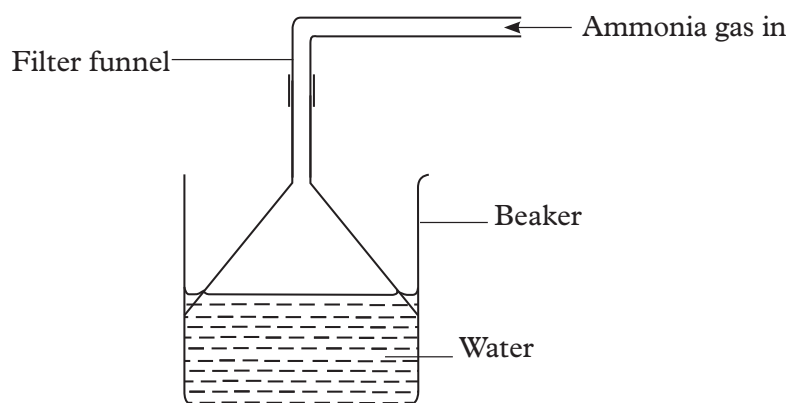

Fig. 2.13 Dissolving ammonia in water
1. From the preparation flask, pass ammonia gas into water via an inverted filter funnel as shown in the figure 2.13 for some time. The filter funnel should just dip into the water surface.